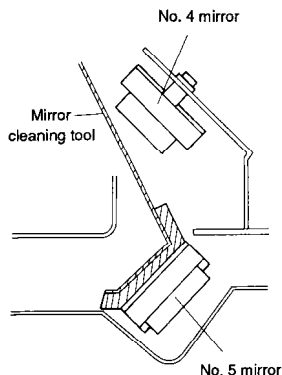

Figure 4-62
- 3) Put the mirror cleaning tool against the No. 5 mirror as shown in Figure 4-62, and clean the mirror by sliding the tool.